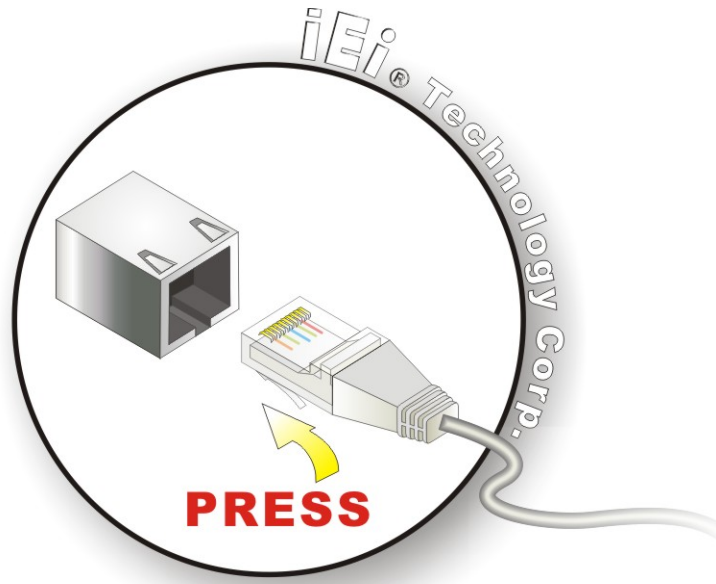

Figure 3-28: LAN Connection
Step 2: Align the connectors. Align the RJ-45 connector on the LAN cable with the RJ-45 connectors on the AFL2-10A-N28. See **Figure 3-28**.